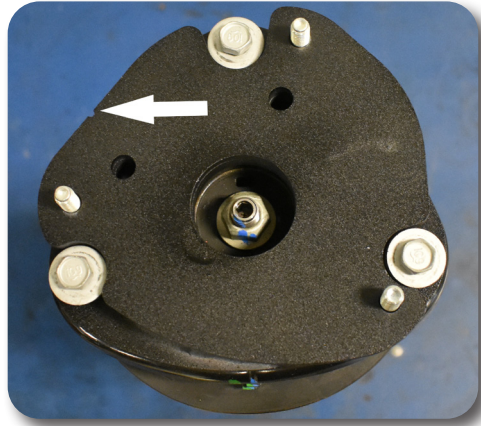

Figure 8A
13. Once the strut has been removed, install the top spacer using the factory mounting bolts. The top spacers are side specific, the notch on the top plate of the spacer should face towards the front of the vehicle when installed. Torque bolts to 26 ft-lbs. Figure 8A/8B.